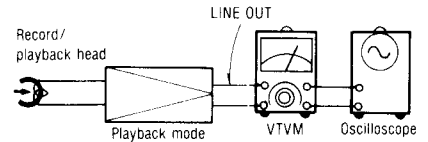

Fig. 2
The serial number plate of this product is attached to the bottom cover (shown in Fig. 2).
1. Make connections as shown in fig. 2.
1. Test equipment connection is shown in fig. 2.